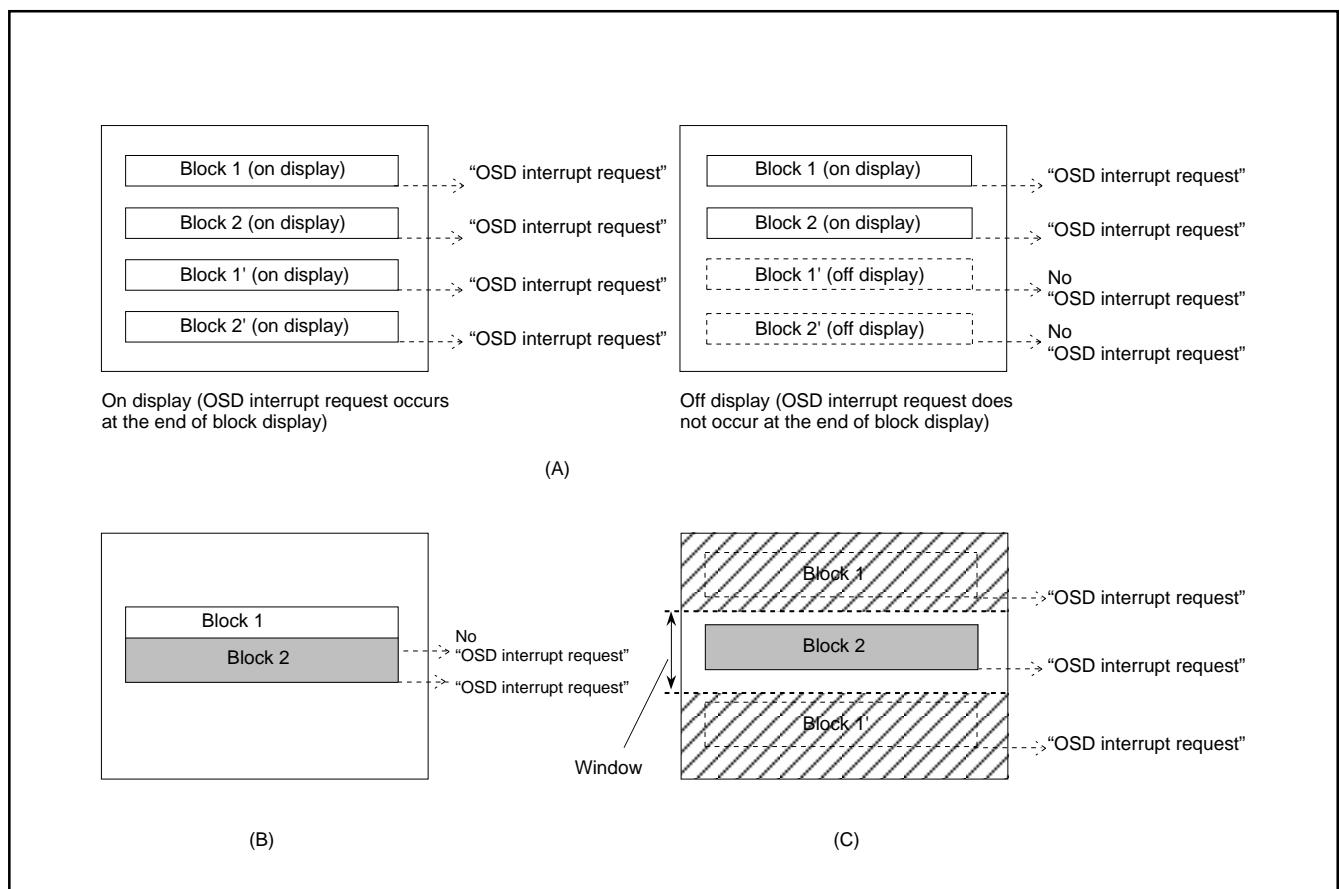

Fig. 8.10.26 Note on Occurrence of OSD Interrupt
Notes 1: An OSD interrupt does not occur at the end of display when the block is not displayed. In other words, if a block is set to off display by the display control bit of the block control register i (addresses 00F9₁₆ and 00FA₁₆), an OSD interrupt request does not occur (refer to Figure 8.10.26 (A)).
2: When another block display appears while one block is displayed, an OSD interrupt request occurs only once at the end of the another block display (refer to Figure 8.10.26 (B)).